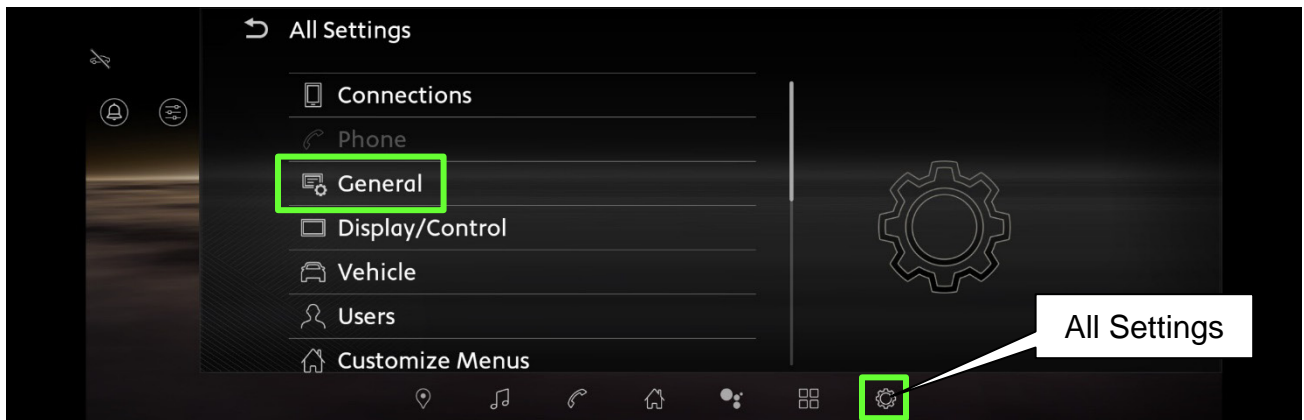

Figure 18
22. Select the **All Settings** icon (Figure 18).